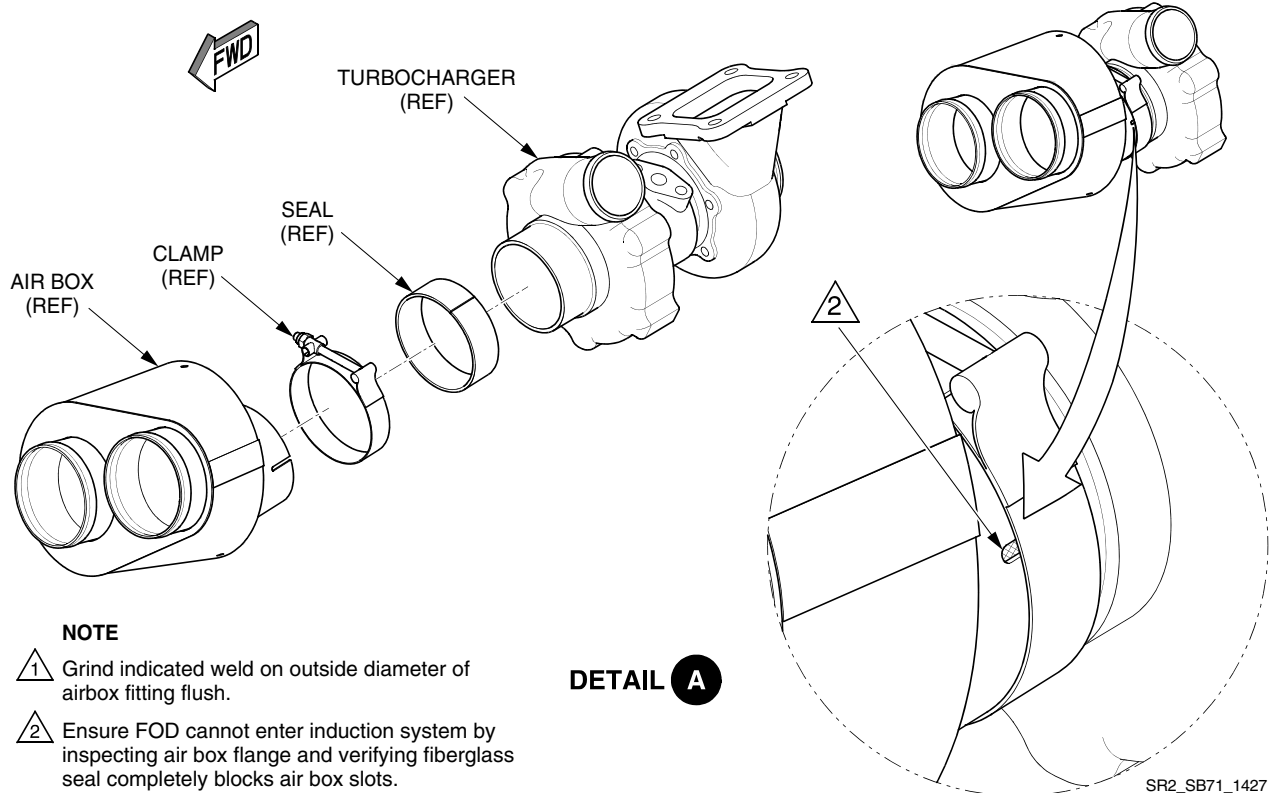

Figure 1
(See Figure 1)
- U. Ensure FOD cannot enter induction system by inspecting air box flange and verifying fiberglass seal completely blocks air box slots. (See Figure 1)